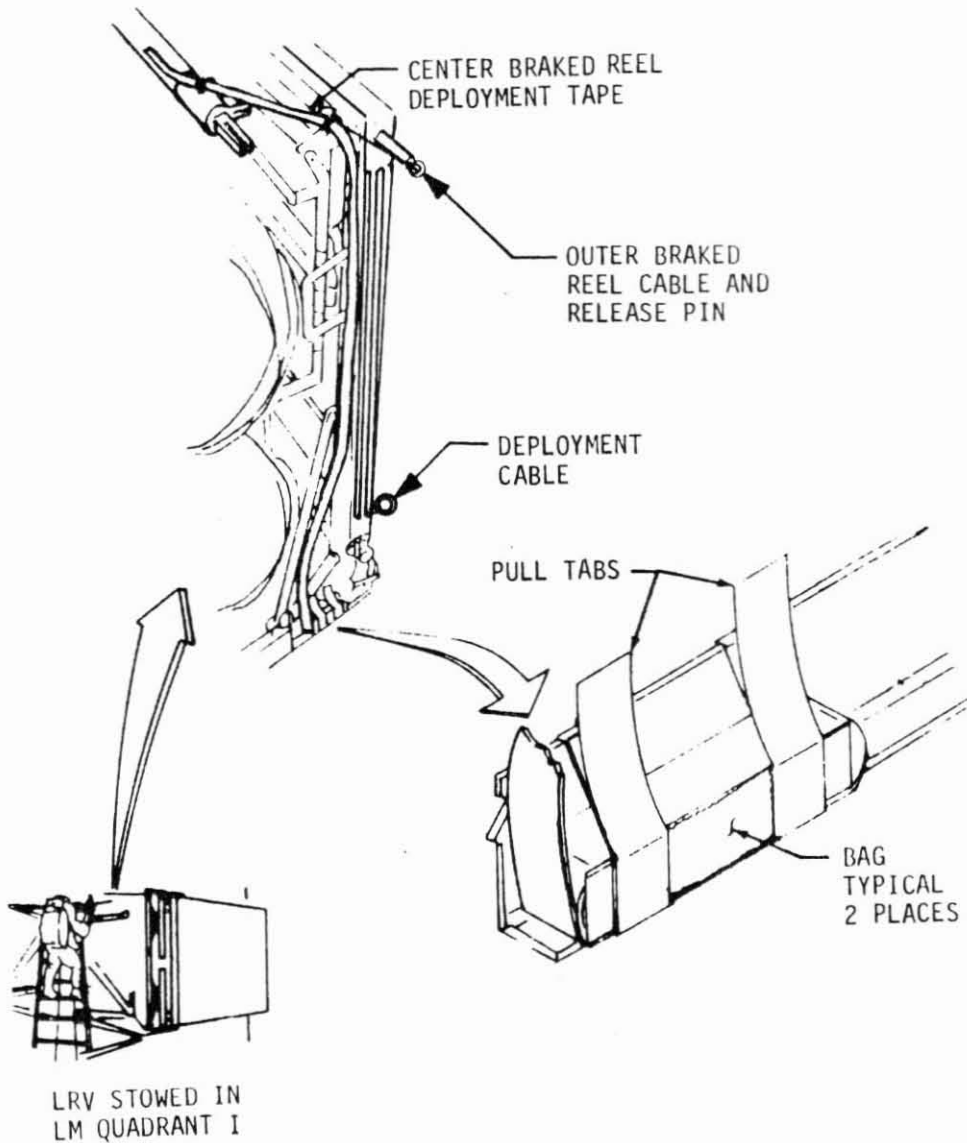

FIGURE 2-2 LRV DEPLOYMENT TAPES AND CABLES
| 2.1      | <p style="text-align: center;">UNLOADING AND CHASSTS DEPLOYMENT</p> <p>Both crewmen are utilized. Procedure steps are for one crewman unless otherwise noted.</p> <p>a. Perform an overall inspection of the LRV and SSE to verify proper configuration and no obvious damage.</p> <p>b. Release LRV insulation blanket.</p> <p>c. Inspect each of two lower support arm latches to verify proper configuration. Latch should be in position and trip arm should be up. Apply force to latch to verify support.</p> <p style="padding-left: 20px;">If either latch is in the "tripped" position, reset as follows:</p> <ol style="list-style-type: none"> <li>(1) Push trip arm down.</li> <li>(2) Rotate latch up into position.</li> <li>(3) Raise trip arm until locking dog on trip arm engages the receptacle on the latch.</li> </ol> <p>d. Release center braked reel deployment tape stowed in nylon bag attached to lower left support arm by velcro tape.</p> <p>e. Stow braked reel deployment tape by draping it over a LM landing strut for convenient future access.</p> | <p>Prior to initiation of the subsequent procedures, crew should position TV camera to monitor all LRV deployment operations.</p> <p>To extent which lighting and landing angle permits inspect lower tube and bell crank assemblies, left side tube assembly, and upper tube and bell crank assemblies and verify there are no obstructions preventing the operation of these pin release mechanisms.</p> <p>Perform overall inspection of those portions of LRV and SSE which were previously obscured by the insulation blanket.</p> <p>Figure 2-1.</p> <p>Figure 2-2.</p> <p>Tape should be placed so that crewman is not required to move</p> |